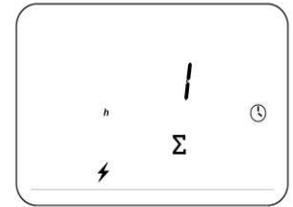

Fig. 28
k. This screen (Fig. 28) will show the cumulative hours of the appliance operation, (if is a new install it will display 1). Press  to accept.